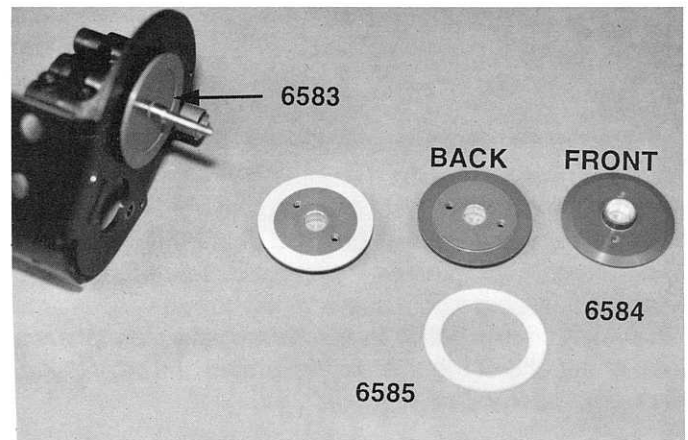

Fig. 64
Figs. 64 & 65 1) Now we need to remove the final #6596 3/16" x 5/16" unflanged bushing from bag B. (Both ball bearing and bushing kits use the same #6596 bushing for this assembly.) 2) From bag E remove the #6584 outer torque clutch hub, #6585 Rulon clutch disc, #6594 thrust bushing, two #6594 thrust bushing steel washers, #6587 torque control spring, and #6629 gold colored 5-40 steel locknut. **Note:** Associated's #6587 replacement part contains both the torque control spring and one #6629 5-40 locknut.
3) Fig. 64 shows both sides of the #6584 outer torque clutch hub, the #6585 Rulon disc, and both parts assembled together. To install the Rulon disc, place it over the recessed area on the back side of the outer torque clutch hub. Make sure the disc is centered on the hub.